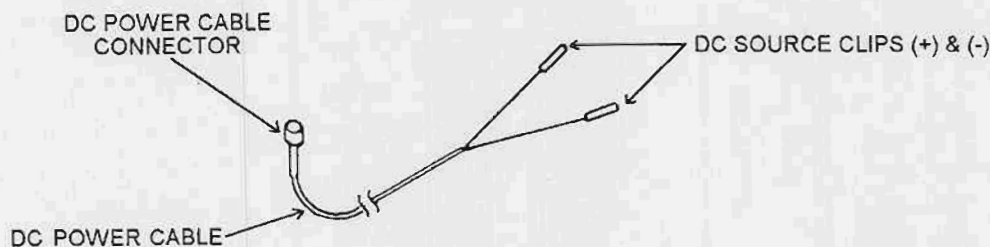

Figure 2-1. DC power cable connector.
- c. For DC operation, connect the power cable to the DC power source (fig 2-1) and the corresponding connector located and marked on the control panel.